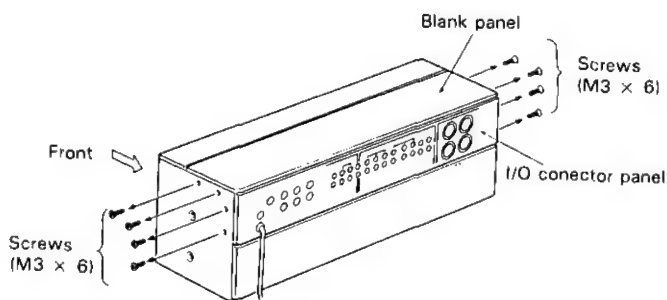

Fig 5.
- (2) When moving the I/O connector panel to the top:
- a) Dismount the I/O connector panel and the top blank panel by removing screws as shown in Fig. 5.